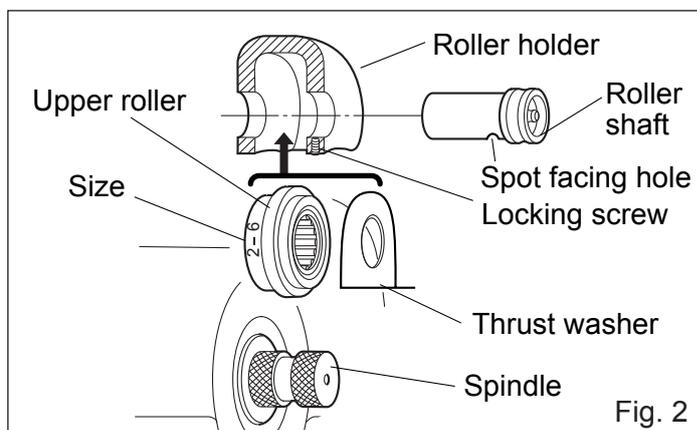

Fig. 2
- 3) To attach the upper roller, place it so that the size marking is at the rear, attach the thrust washer to the opposite side, place back into the roller head and then insert the roller shaft. Finally, lock the spot facing hole firmly with the locking screw. (Fig. 2)